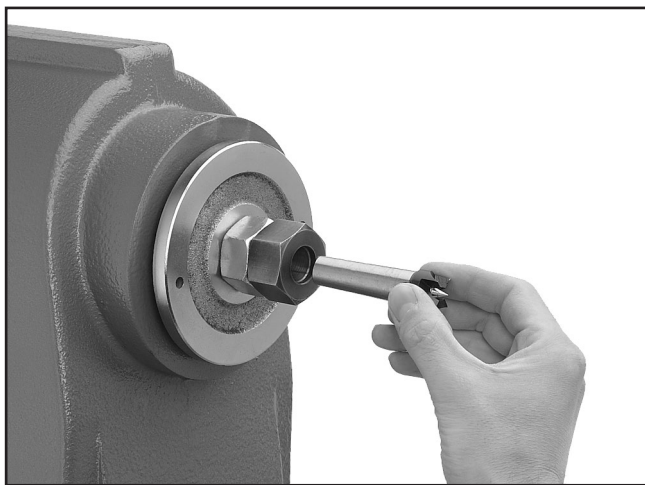

Figure 15. Installing spur center.
3. Insert the tapered end of the center into the spindle (see **Figure 15**), and push it in quickly and firmly.